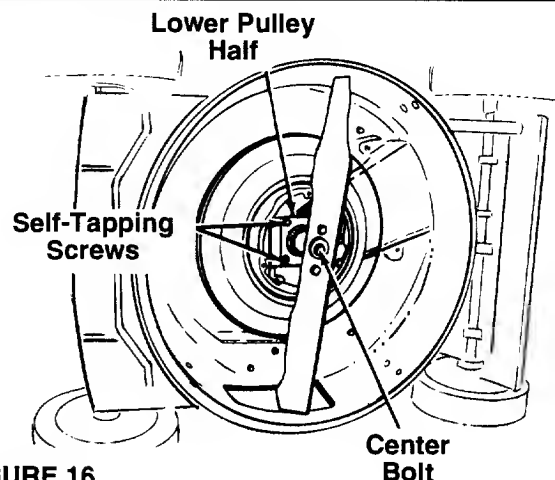
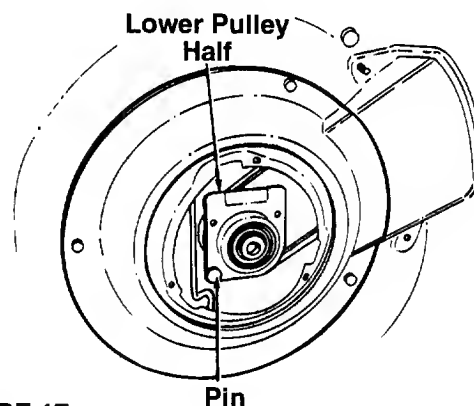

FIGURE 16.
FIGURE 17.
- Remove the center bolt which secures the blade to the crankshaft. See figure 16. Remove the blade and blade adapter.
- Remove the two self-tapping screws which secure the lower pulley half. See figure 16. Rotate the lower pulley half 90° clockwise (see figure 17) and remove from the mower. Remove the belt from around the crankshaft.